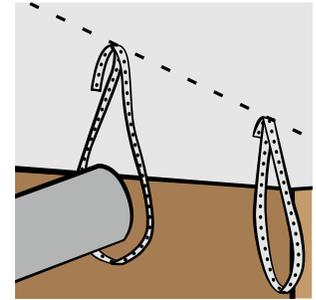
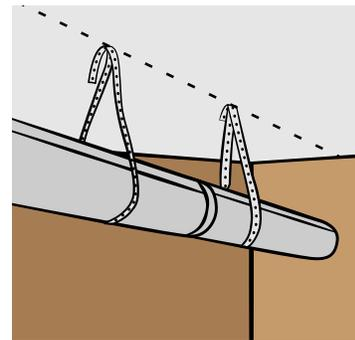

FIG. 10b
FIG. 10c
- d. Feed the ductwork through each loop, connecting components together as you go [FIG. 10b] [FIG. 10c].